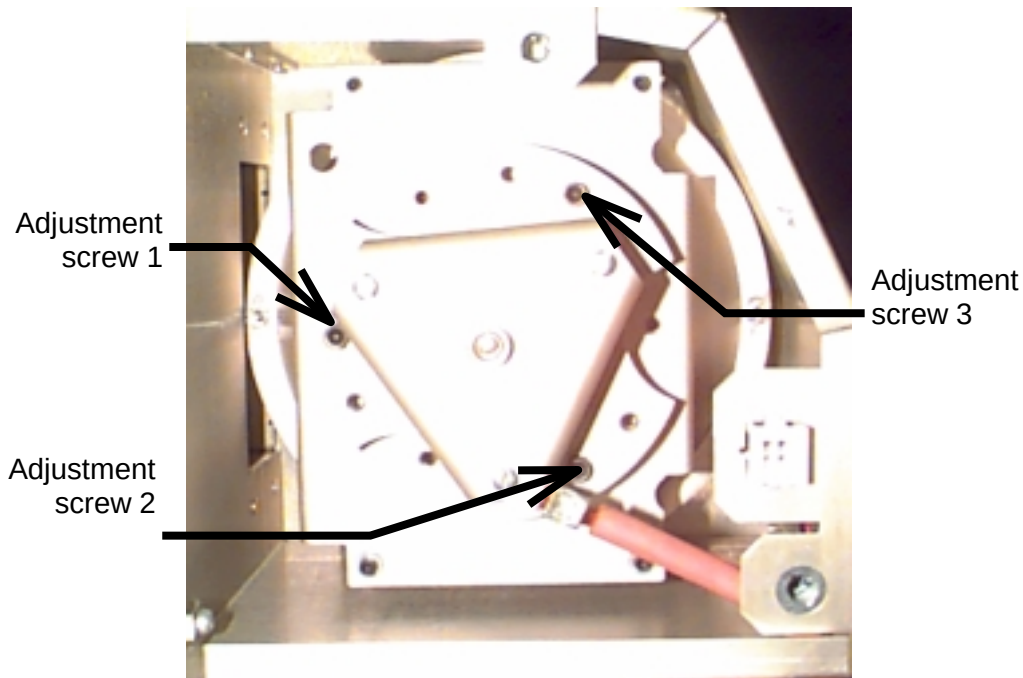
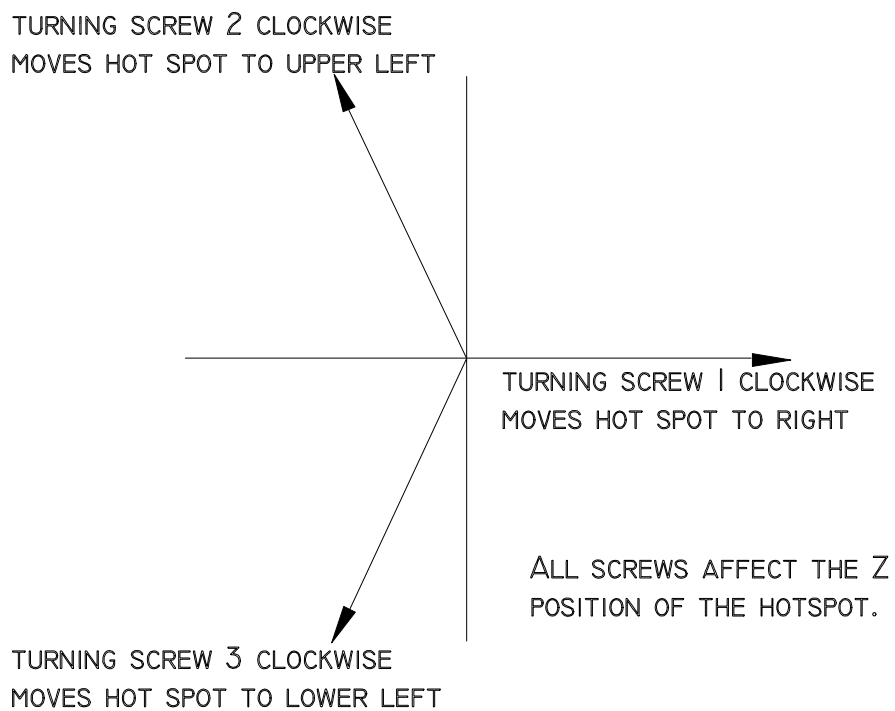
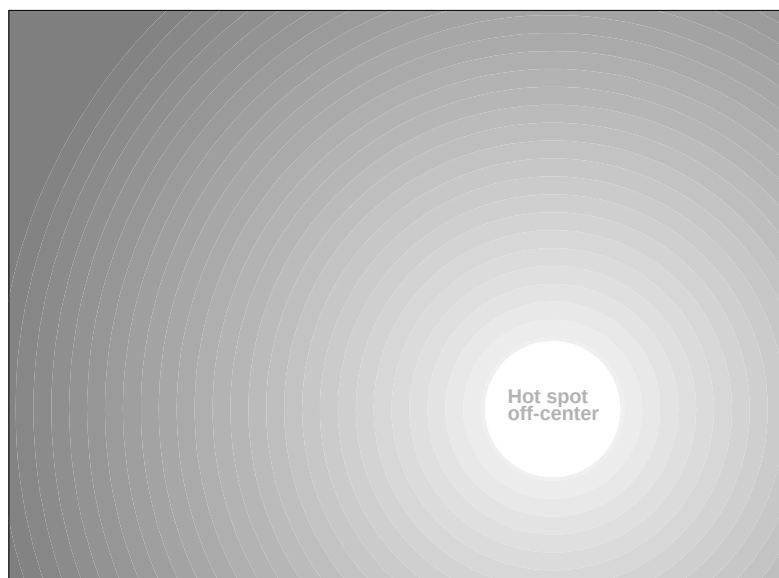

Figure 3-5. Arc Lamp alignment screws.
Figure 3-6. Graphical representation of hotspot movement on screen.
Figure 3-7. Arc Lamp “Hot Spot” (brightest area) is off-center vertically and horizontally. Adjust to center the “hot spot”.
6. Next the Arc Lamp alignment screws (Figure 3-5) are adjusted to center the "hot spot" (brightest area). Figure 3-7 illustrates a "hot spot" on the screen.
8. Use Figures 3-5 and 3-6 as guides to determine which alignment screw(s) to adjust. Figure 3-6 illustrates the direction the hotspot will move when turning the alignment screws clockwise. Turning the alignment screws counterclockwise moves the hotspot in the opposite direction from what is shown in Figure 3-6.